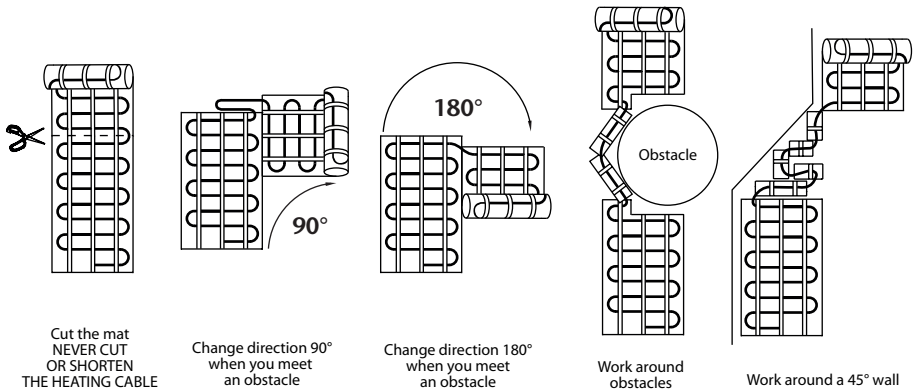

Figure 12
- When the heating mat roll meets a wall or obstacle, simply cut the mat and pivot it in another direction (figure 12);